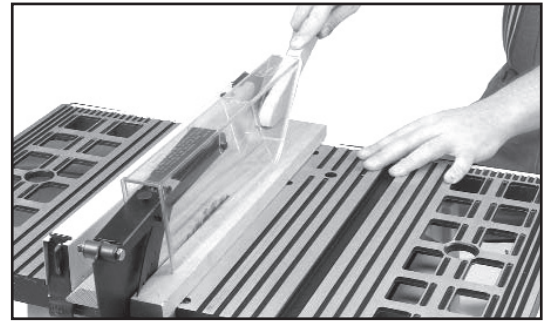

Fig. 41
2. If the ripped work is less than 4 inches wide, a push stick should always be used to complete the feed, as shown in Fig. 41. The push stick can easily be made from scrap material as explained in the section "CONSTRUCTING A PUSH STICK."